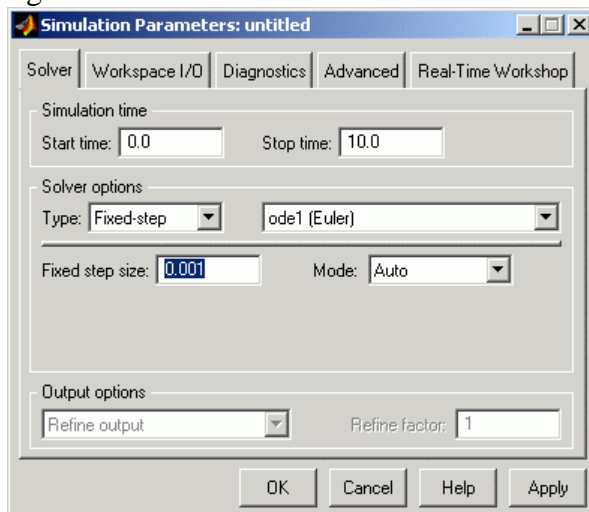

Figure 7 Setting the Sampling Time
Step 11. Set the desired sampling rate for the controller by using the *Simulation / Simulation parameters...* option from the model window menu bar. This opens up a dialog box where the controller sampling time can be set in the input box named *Fixed step size*. For example, set the sampling time to 0.001 second, as shown in Figure 7.